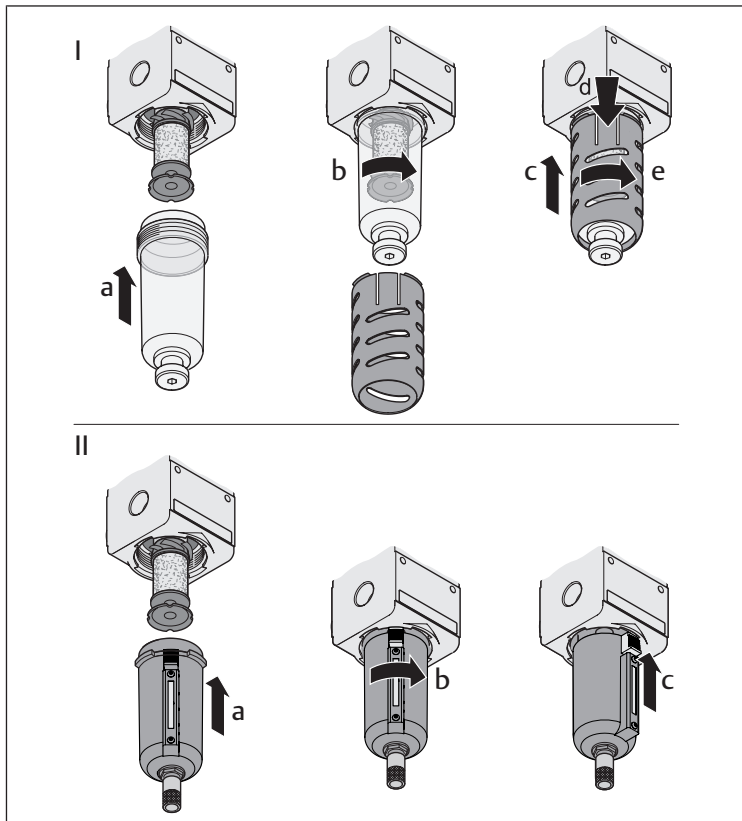
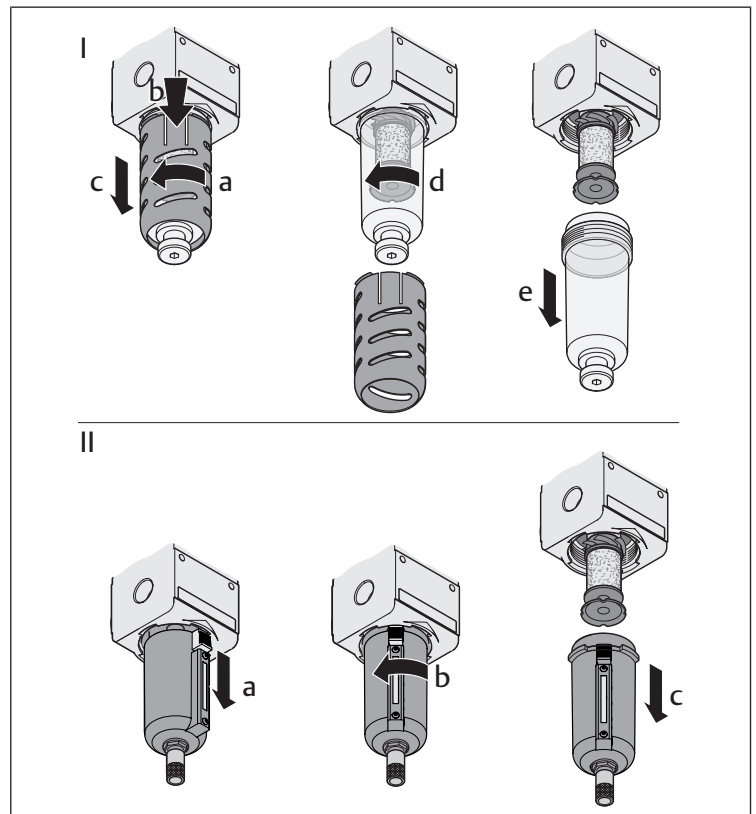

Fig. 2: Mount the reservoir and protective guard
Fig. 6: Disassemble the reservoir and protective guard
▶ Release the protective guard (→ Fig. 6 I a, – b), if present, and pull it off downwards (→ Fig. 6 I c).
▶ Unscrew the reservoir (→ Fig. 6 I d) from the housing.	Pull down the unlocking device (→ Fig. 6 II a), turn the reservoir (→ Fig. 6 II b) in an anti-clockwise direction, and then pull it down and remove (→ Fig. 6 II c).
▶ Mount the new reservoir with sensor and, if present, the protective guard in reverse order as shown in Fig. → Fig. 6 I (see order as shown in Fig. → Fig. 6 I (see also Fig. → Fig. 2)).	Mount the new reservoir with sensor in reverse order as shown in Fig. → Fig. 6 II (see also Fig. → Fig. 2).